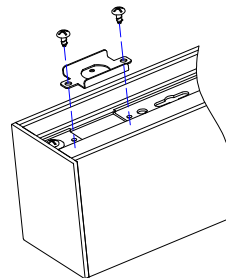

Fig. 9
3. Remove the knockout hole, then remove the access plate. (Fig. 9)